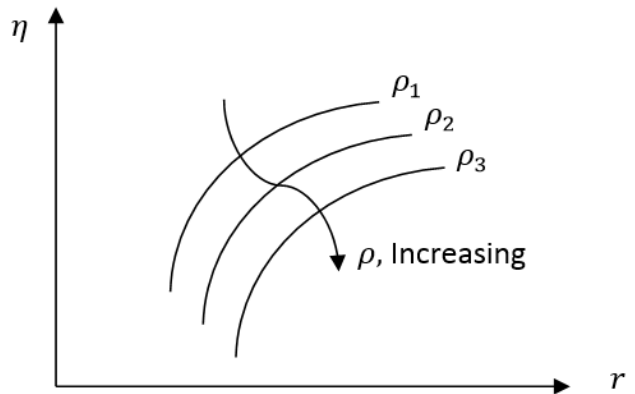

Fig. 1.14 Efficiency of Diesel cycle for various cut-off ratio
- Fig. 1.14 shows the air standard efficiency of diesel cycle for various cut off ratio.